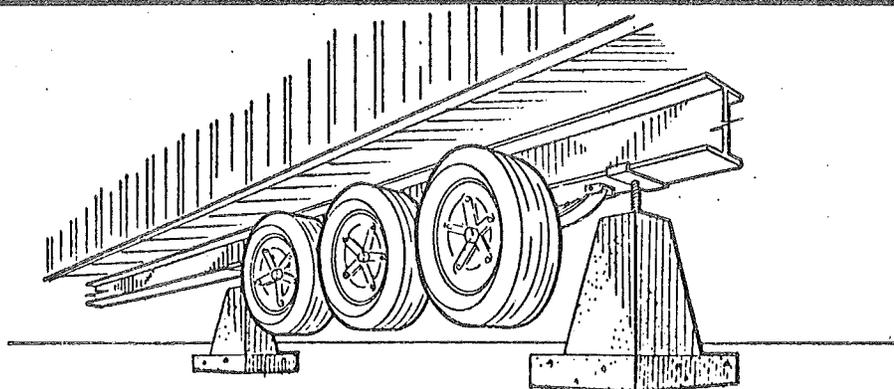

FIG. 6
2. The second step is to jack up one side of the house by placing a jack forward of the front spring shackle and another jack just behind the rear spring shackle. The home should then be lifted with both jacks simultaneously. Install piers, one just ahead of the front jack and one just behind the rear jack. (Be careful not to exceed the 8'-0" maximum spacing) (See Fig. 6)